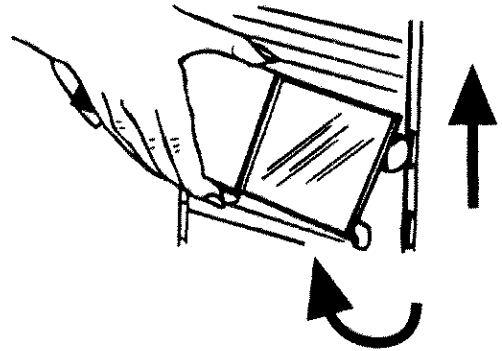

Figure 23
- Hold shelf against door and tap down gently on both ends until shelf is seated securely. See Figure 23.